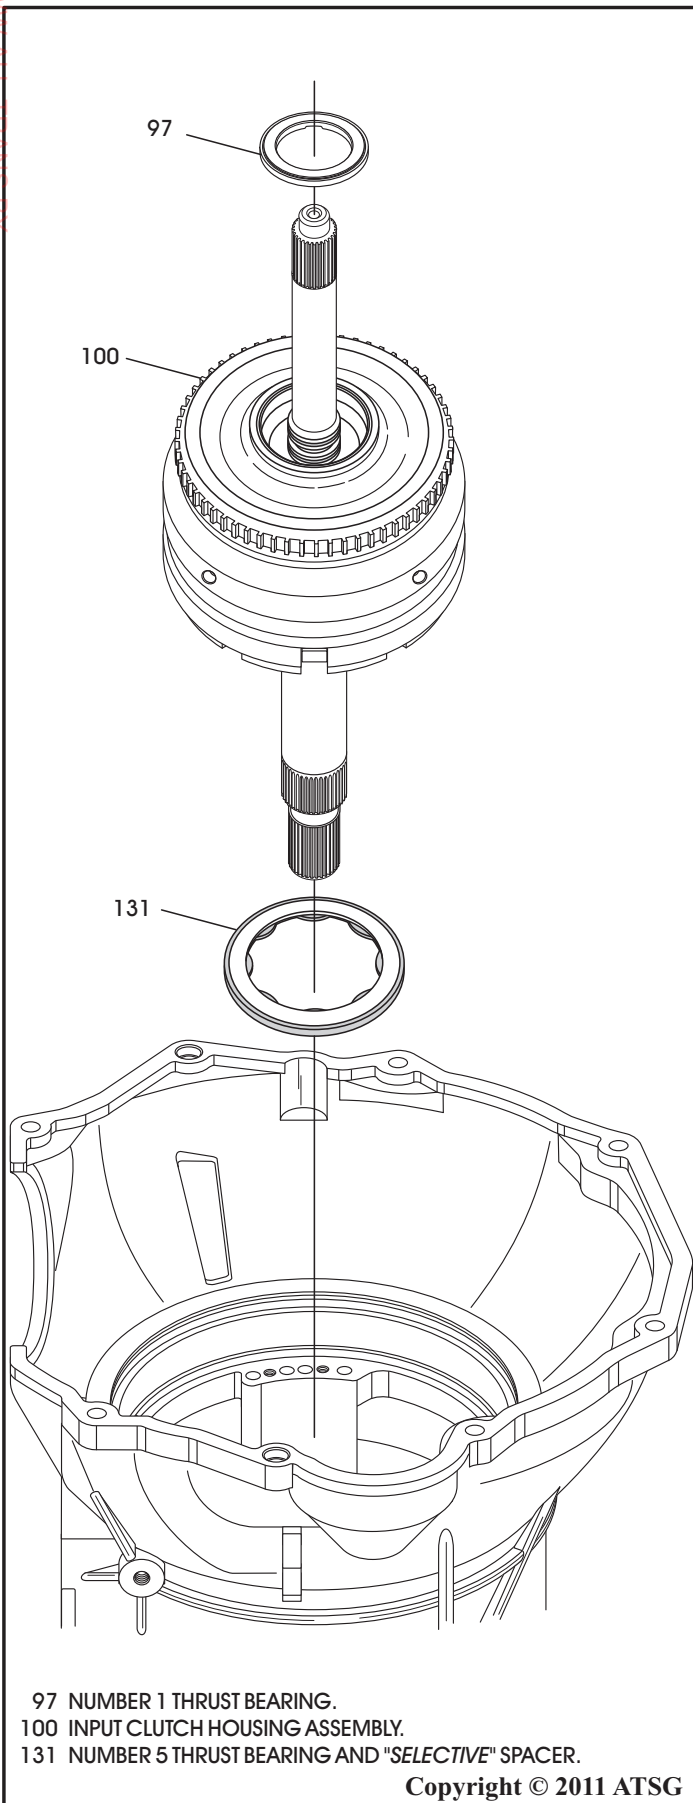
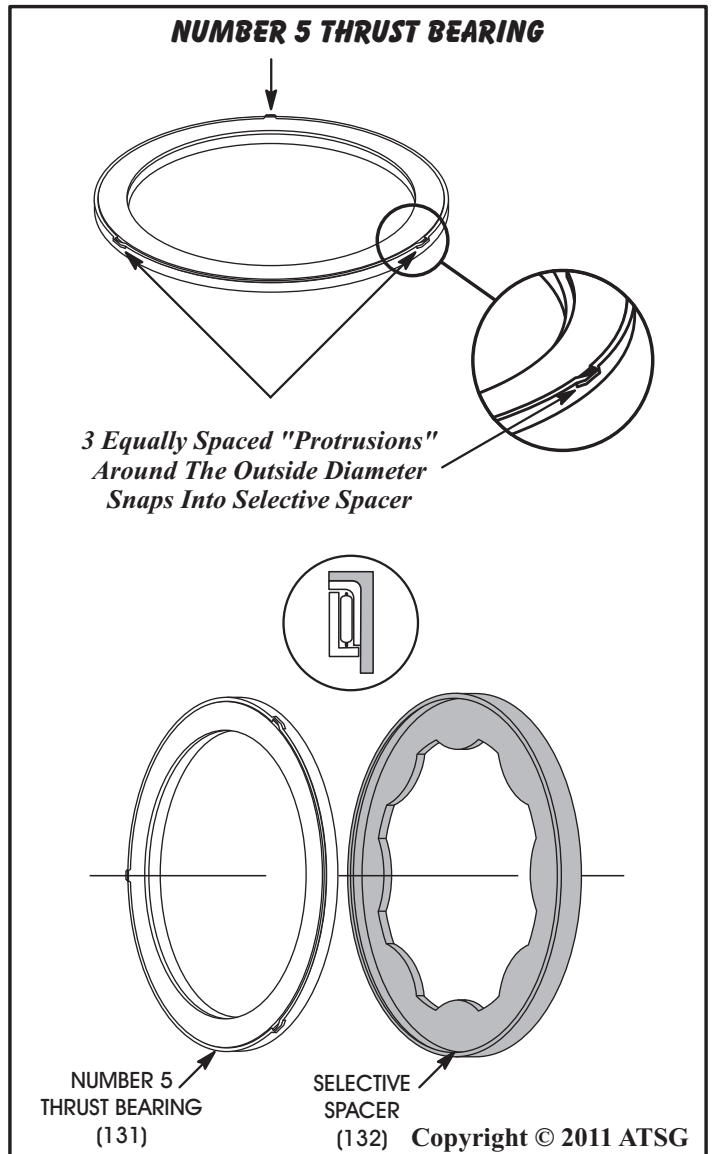

Figure 46
Figure 47
27. Remove the input clutch housing assembly by lifting straight up, as shown in Figure 46.
28. Remove the number 1 thrust bearing from inside the input housing, as shown in Figure 46.
29. Remove number 5 thrust bearing and "selective" thrust bearing spacer, as shown in Figure 46. *Note: Number 5 thrust bearing has 3 equally spaced "protrusions" around the outside diameter that snaps into the selective spacer, as shown in Figure 47. This selective spacer is used to set front transmission end-play.*